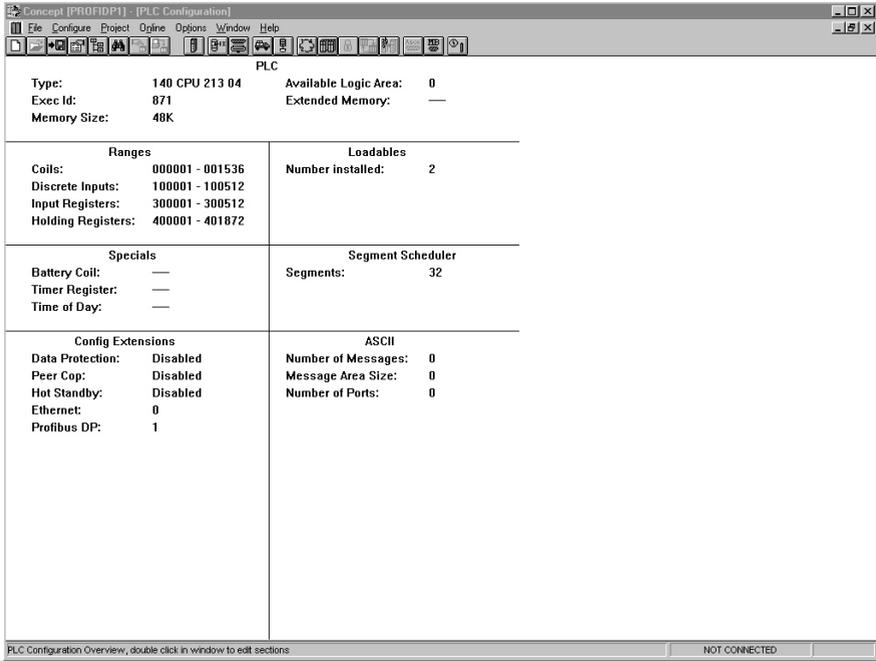

Figure 12: PLC Configuration Window
3. In the PLC Configuration window (Figure 12):